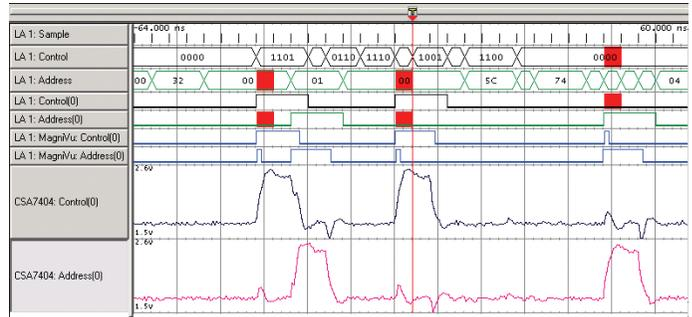

Figure 14. Crosstalk between Control (0) and Address (0) shown using the iView measurement.
Testing the earlier crosstalk hypothesis on Control (0) and Address (0), Figure 14 shows that for every leading edge of one signal there is a corresponding positive voltage pulse on the other. This makes crosstalk between Control (0) and Address (0) the obvious diagnosis. Crosstalk can easily occur on adjacent runs or pins within the package. High frequency signals and clock edges have a greater susceptibility to crosstalk effects than lower frequency signals. This implies that even design practices that were consistently successful at slower frequencies can be a contributor to failures at higher frequencies. Although the buses in these two examples were quite narrow, logic analyzer glitch triggering can be used on buses with hundreds of signals. The logic analyzer checks every signal line for glitches. If it flags a glitch, you can focus in on the problem using the features just discussed, until you determine the source of the glitch.